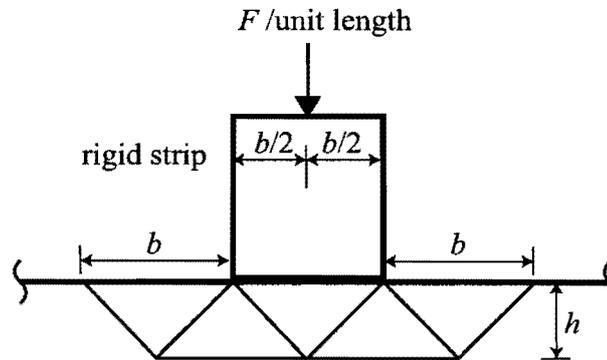

Figure 5
- * 5. Figure 5 shows, for the strip described in question 4, another mode of indentation based on the relative displacements of five identical “rigid” triangular blocks; all other material is undisturbed.